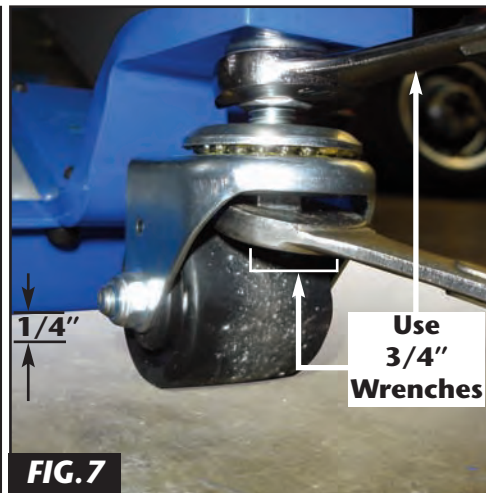

FIG.7
9. Turn locknut No. 1027 on caster stud up until it is making contact with the underside of caster mount No.776-2 tighten lock nut to about 20 ft-lb of torque with your two 3/4" wrenches. **See Fig 7.**